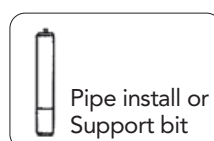
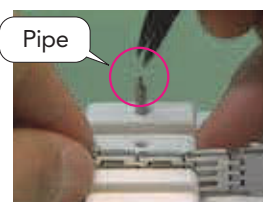

Fig.7
Fig.8
3) Put the pipe on the tip of the S-926 holder.(Fig.7, Fig.8)